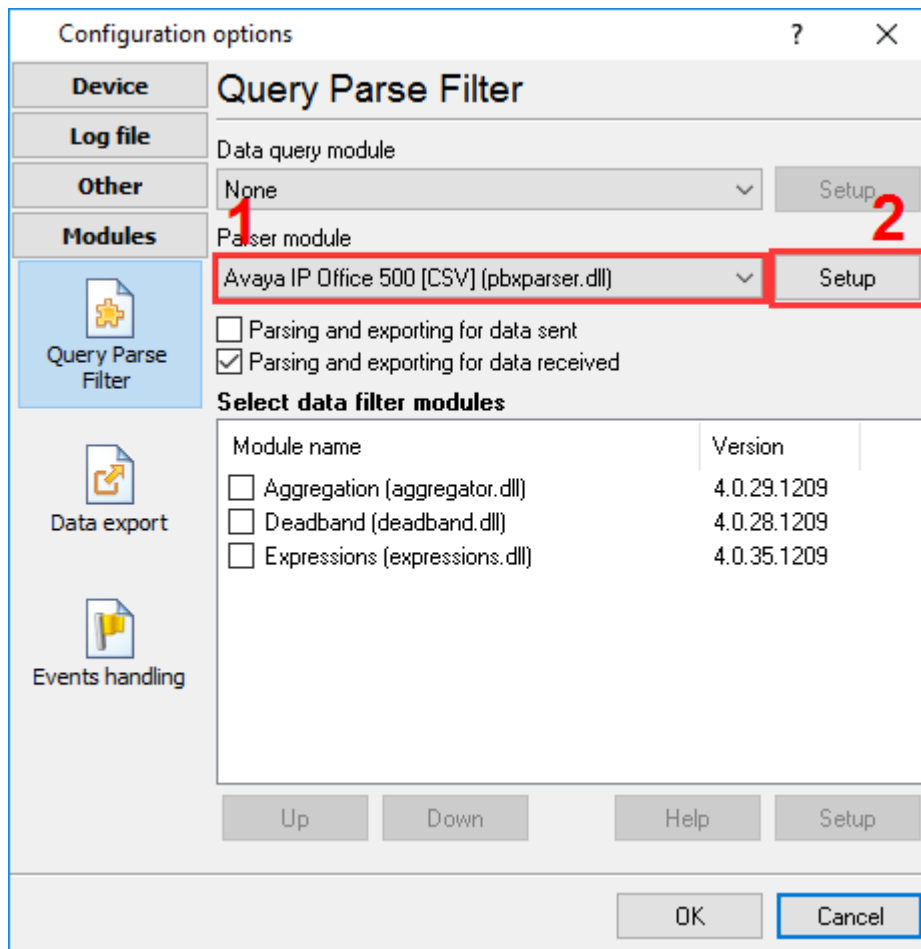

Figure 1. Selecting a parser
3. Switch to the "Modules — Query Parse Filter" tab and select a parser for your PBX (Figure 1).